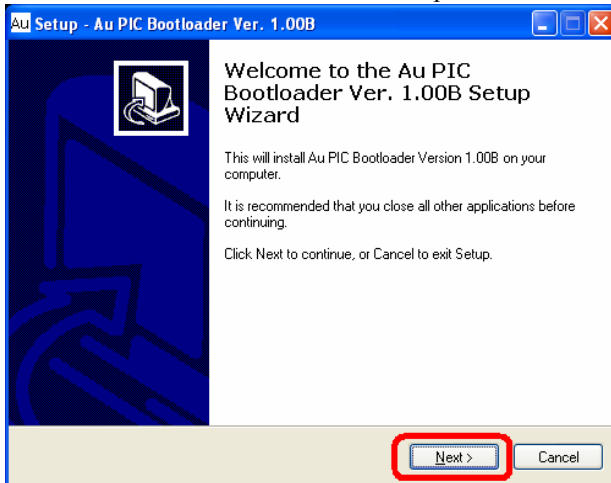

Figure C-2
2. “Welcome to the Au PIC Bootloader Setup Wizard” window show up, click “Next” (Figure C- 2)